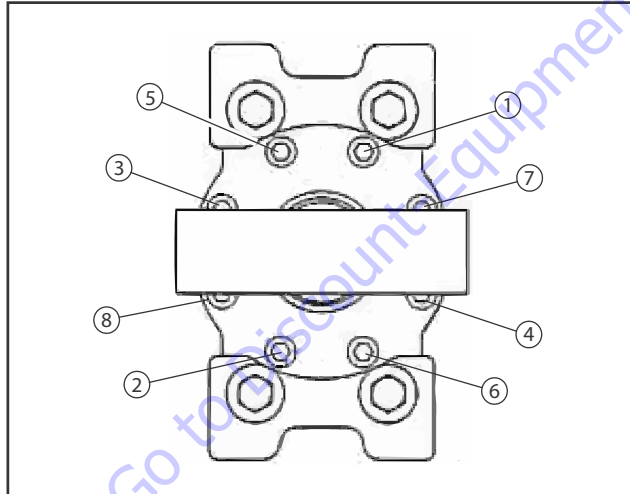

Figure 5-178. Cylinder Head Torque Sequence
15. Install two pad supports (7) to cylinder head (12) and barrel (2) with eight capscrews (6). Torque capscrews to 20 ft-lb (27 Nm) following sequence shown in Figure 5-178.